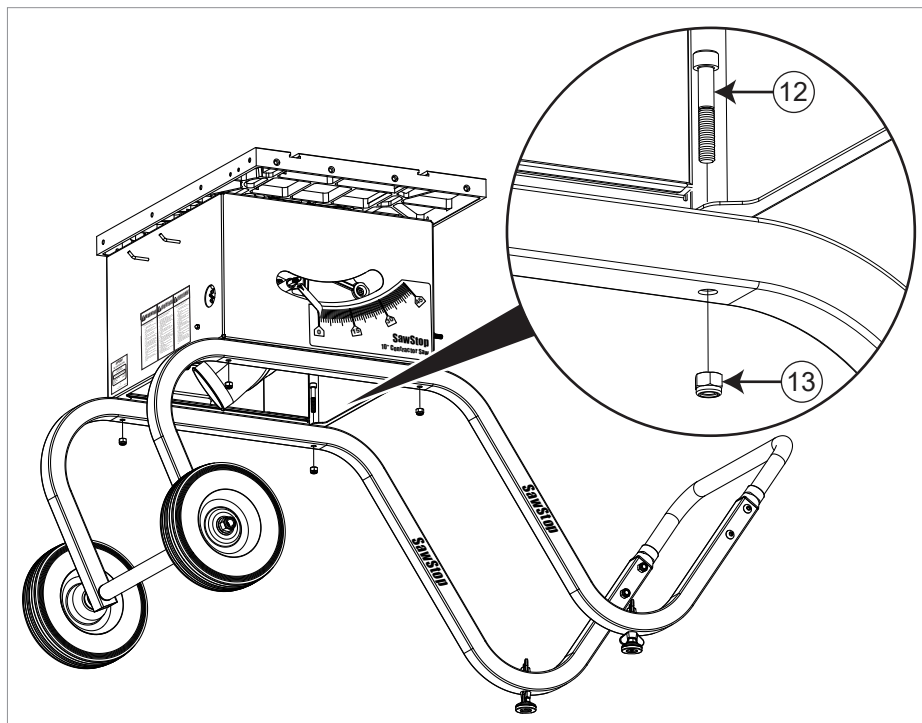

Fig. 11
11. Align the mounting holes in the bottom corners of the saw with the mounting holes in the top surfaces of the mobile cart. Mount the saw to the mobile cart using four M8 x 50 socket cap bolts and four M8 lock nuts. Insert the bolts down through the mounting holes in the bottom corners of the saw and through the four holes in the mobile cart frame (see Fig. 11). Fully tighten the nuts using a 13 mm wrench and a 6 mm hex key.